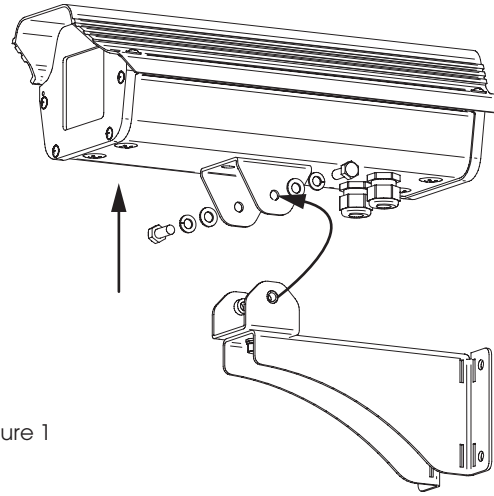

Figure 1
1. Remove the tilt mechanism from the bracket (see Figure 1).